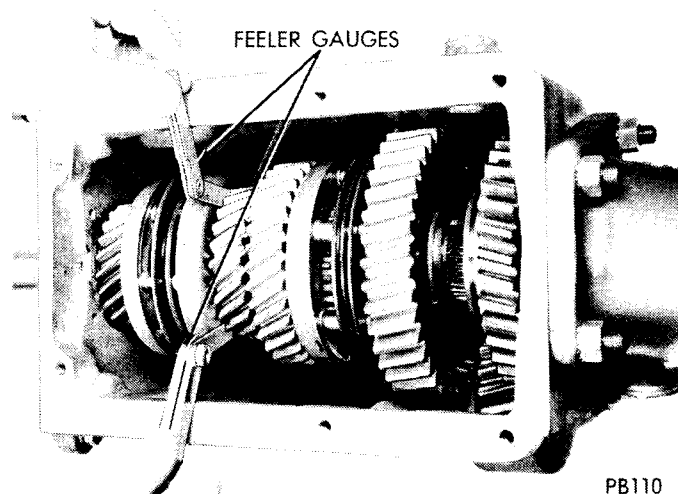

Fig. 13—Measuring End Play Float
(16) The end play float on the front synchronizer must be checked before installation of the transmission cover assembly. Measure end-play "float" by inserting two feeler gauges diametrically opposite one another between the 3rd speed gear and the synchronizer stop ring. Accurate measurement can be made only after all mainshaft components are in place and tightened to specifications (Fig. 13).
(17) If front synchronizer end play "float" does not fall between 0.050 inch and 0.070 inch, shims should be added or removed as required between the 3rd speed gear and the synchronizer stop ring.
(18) Install yoke and retaining nut on rear of mainshaft. Shift transmission into two gears at once and torque yoke nut to 125 foot-pounds.
(19) Shift transmission into neutral.
(20) Install cover gasket.
(21) Shift transmission into 2nd gear. Shift cover into second gear also.
(22) Carefully lower cover into position. It may be necessary to position reverse gear to permit shift fork to engage groove.
(23) Install cover aligning screws and tighten finger tight.
(24) Install remaining cover screws. Tighten all cover screws to specifications, after cover is seated evenly on gasket.